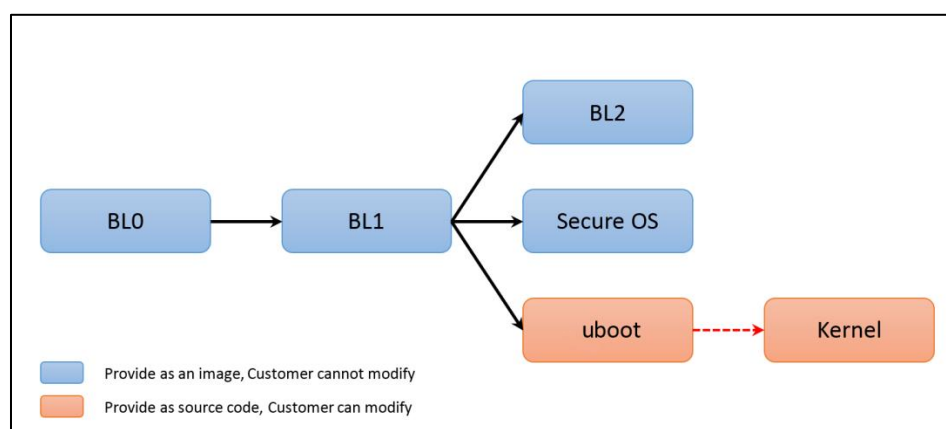

Figure 3. Cryptographic Check Sequence Overview
*Figure 3* illustrates one possible secure boot sequence.